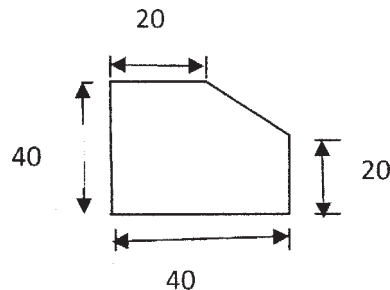

Figure 1
**Q1)** Design a blanking die for the component shown in figure 1.
- Q2) a)** Calculate centre of pressure for the component shown in figure 1. [8]